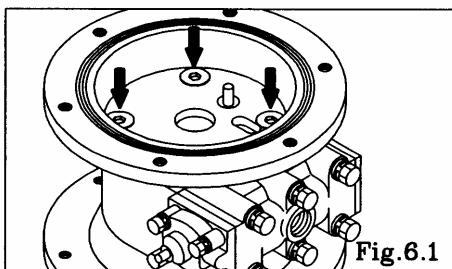

Fig.6.1
- Remove the 8 retainer bolts from the air chamber, and remove the air chamber and gasket. [Fig.6.1]